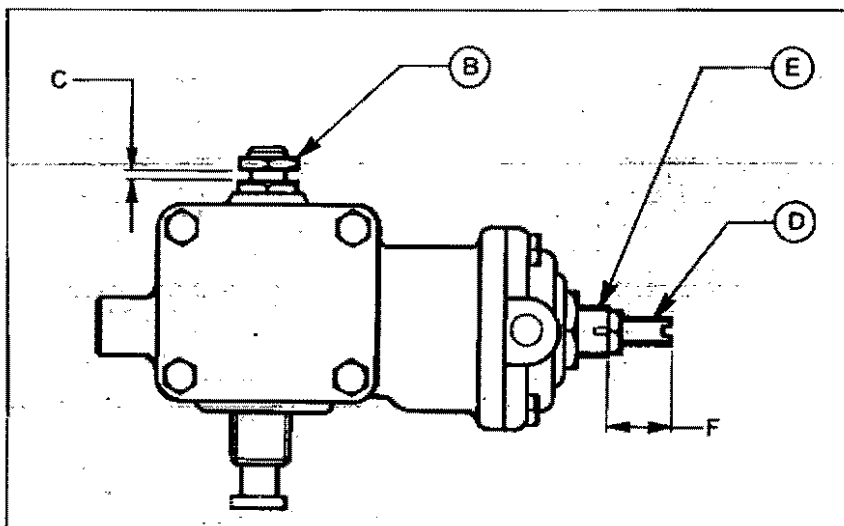

Fig. 64 Recalibration
- (a) Adjust the maximum fuel screw 'B' Fig. 64, to give an average delivery at 1000 r.p.m. of 17.9 to 18.1 c.c.'s (Hartridge 1100) or 17.3 to 17.5 c.c.'s (Hartridge 650) with 0.85 bar (0.86 kgf/cm2 or 12.3 lbf/in2) boost pressure.
- (a) Set the gap between head of maximum fuel screw 'B' Fig. 64 and locknut to  $2.00 \pm 1.00$  mm. ( $0.080 \pm 0.040$  in.).